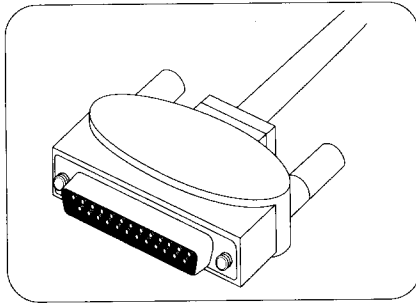

Figure 1 Parallel Connector
1. Connect your **MiniSCSI Plus** parallel connector (see *Figure 1*) to a parallel printer port on your computer; you may use either LPT1, LPT2 or LPT3—the **MiniSCSI Plus** drivers will automatically detect which port is in use.